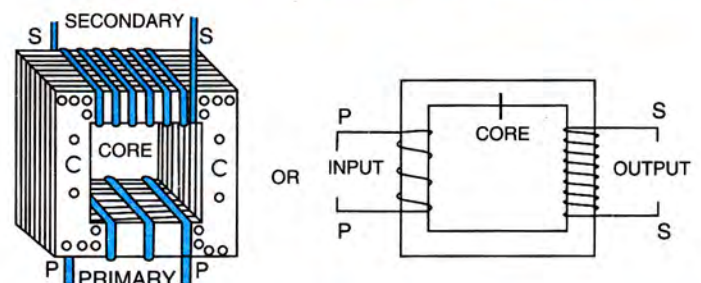

Fig. 10.36 Step up and step down transformers
- (1) **Step up transformer :** The transformer used to change a low alternating voltage to a high alternating voltage (of same frequency) is called a step up transformer (i.e., $E_s > E_p$). In a step up transformer, the number of turns in the secondary coil is more than the number of turns in the primary coil ($N_s > N_p$) i.e., turns ratio $n > 1$ as shown in Fig. 10.36. Since current in primary coil is